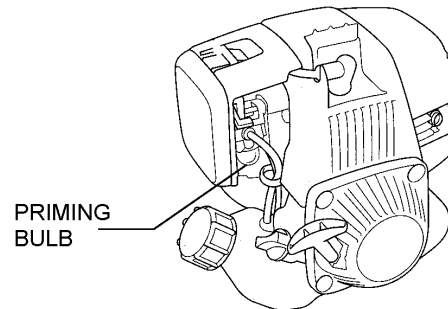

Figure 12. Priming Bulb Location
2. Press the priming bulb (Figure 12) repeatedly until fuel can be seen inside the clear plastic bulb.